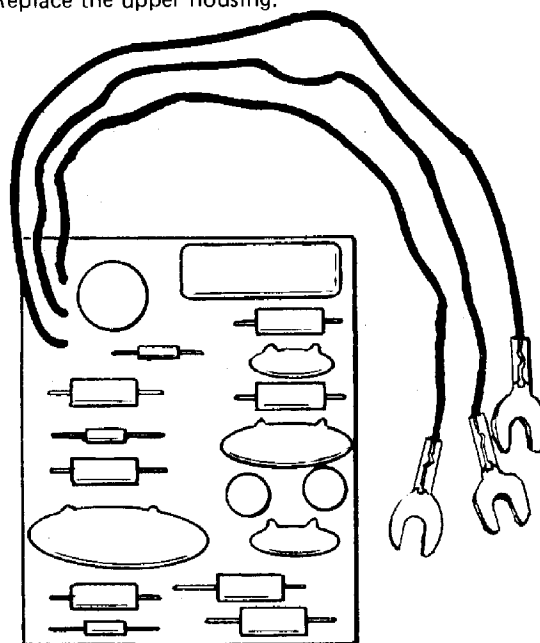

Figure 1. Hookswitch Dialing Inhibitor.
2.01 The hookswitch dialing inhibitor (Figure 1) stops the use of the hookswitch for dialing by providing a delay of 350 milliseconds (approximately) in reclosing the line after the hookswitch contacts are momentarily opened. This delay acts as a disconnect signal and causes release of the switching equipment.